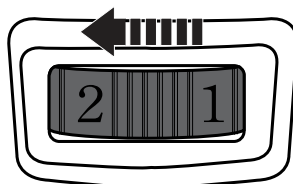

Fig. 15
- > Turn the speed dial (1) left (from the perspective shown below) to decrease the maximum speed (Fig. 15). A lower setting is suitable for sanding with coarse-grained sanding papers to remove paints and varnishes.